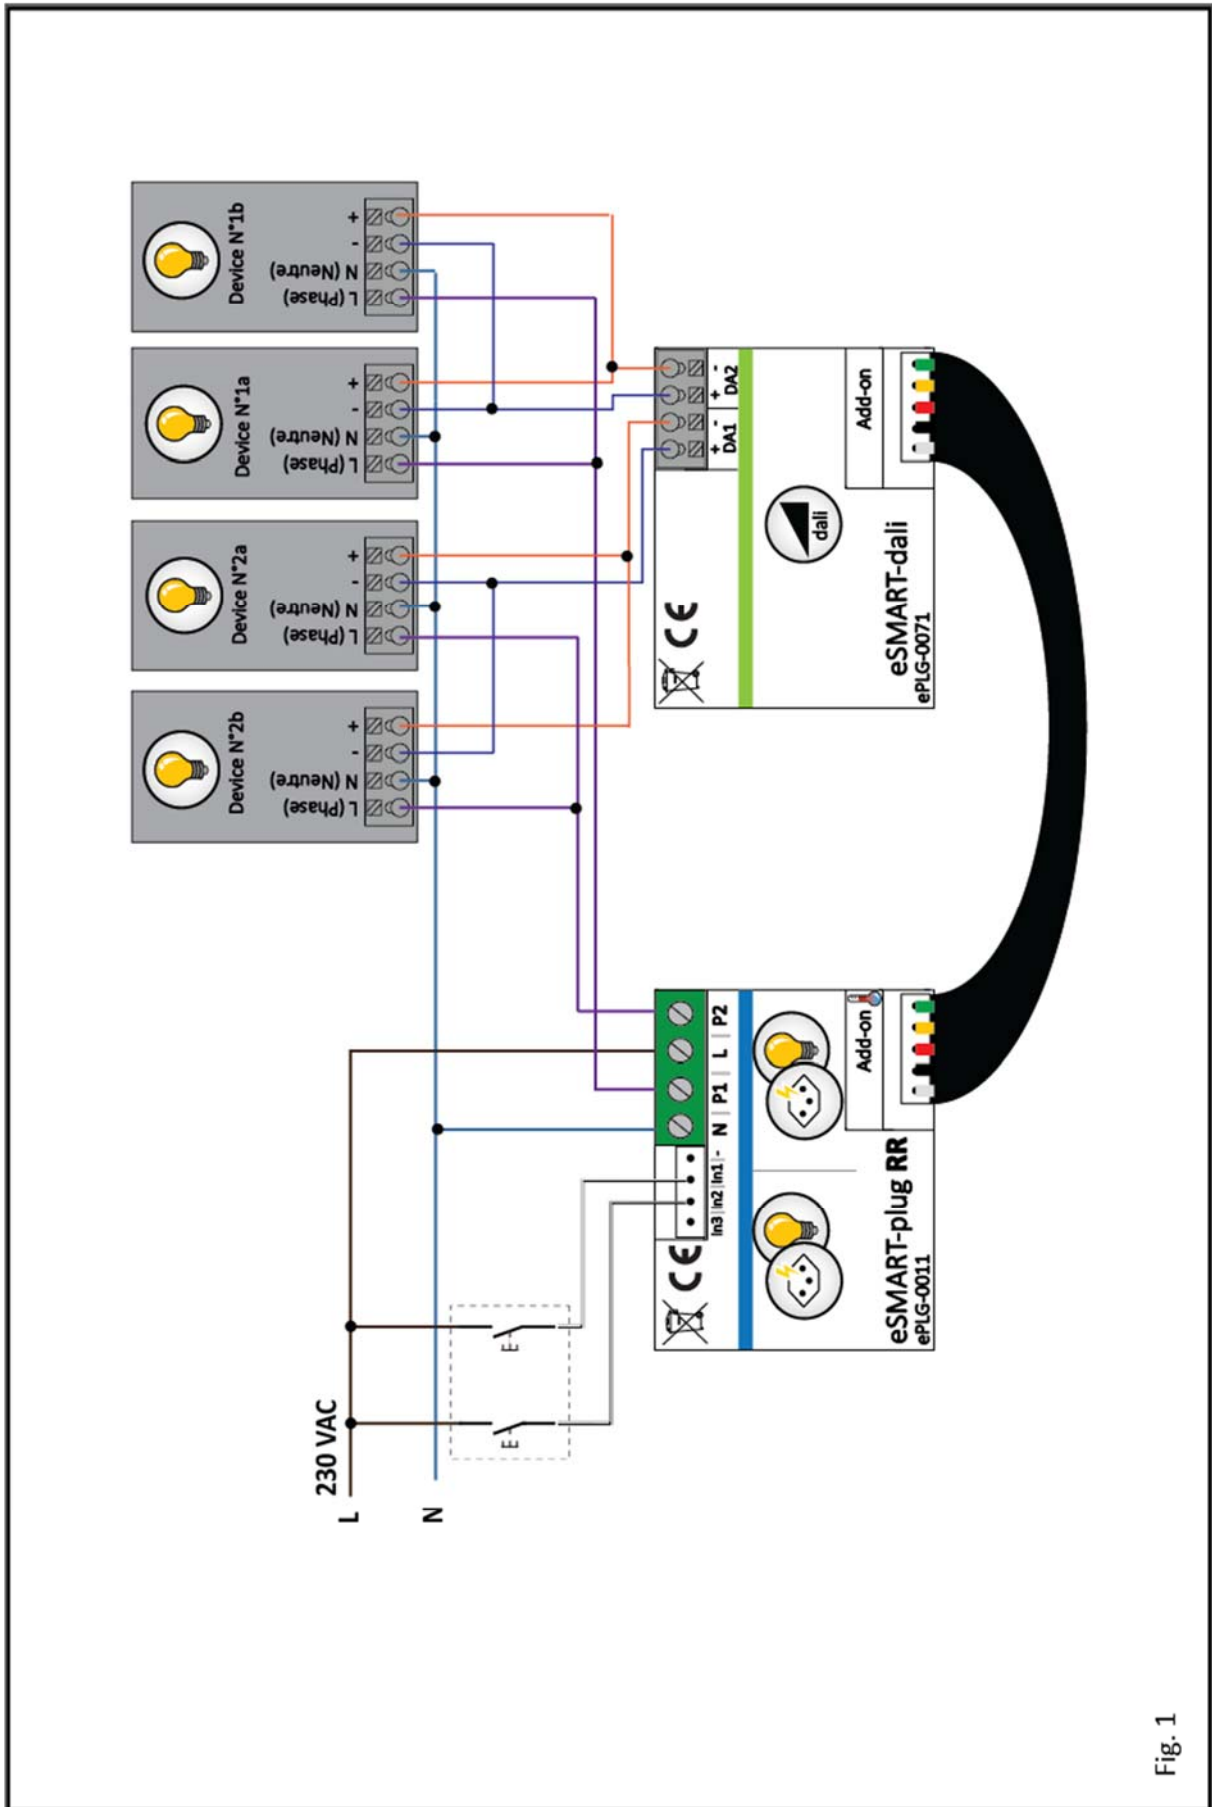

Fig. 1
- Connect the power supply 230 V AC (1, Fig. 1) to the P and N terminals, namely Phase to terminal P and Neutral to terminal N, as shown in the illustration.
- Connect drivers # 1 and / or # 2 (1, Fig. 1) to the P1 and P2 terminals. I.e., driver # 1 to terminal P1 and / or load # 2 to terminal P2, as shown in the diagram.
- Connect outputs DA1 and/or DA2 to the driver relative (4, Fig. 1) as shown in the illustration
- If appropriate, connect the eSMART-plug-RR (Fig. 1) to the connector provided for that purpose.